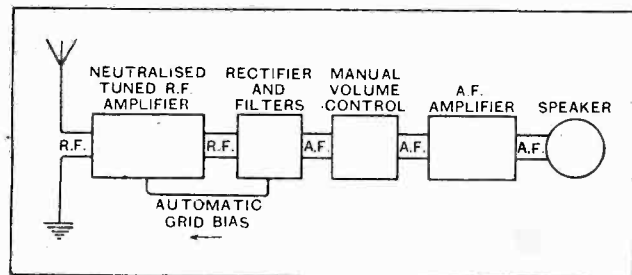
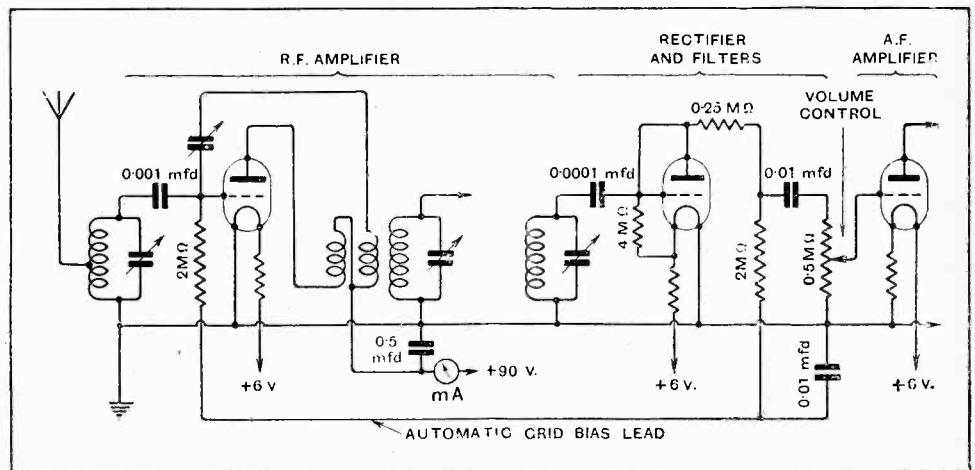

Fig. 1.—Schematic diagram showing natural sub-divisions of circuit.
Fig. 2.—Essential circuit connections and values in the automatic volume control device.
Fig. 1 is a schematic diagram showing the natural sub-divisions into which the circuit may be divided; for further detail Fig. 2 should be consulted. The four sections are constituted as follows:—
**R.F. Amplifier.**—This consists of four stages of radio-frequency amplification, the circuit connections of one stage being shown in Fig. 2. Valves having an A.C. resistance of 12,000 ohms and an amplification factor of 8 are employed in a conventional neutralised circuit. There are two tuning controls, one for the aerial circuit and the other for simultaneously tuning the secondaries of the four H.F. transformers.
slight lag between the change in amplitude of the signal and the application of the appropriate grid bias; but this is negligible on normal broadcast wavelengths, where fading periods are usually of the order of minutes. With the values given in Fig. 2 the time constant is 1/40th sec., and the time taken to reach equilibrium approximately 1/20th sec. This time can be further reduced, but at the cost of reducing the amplification of the lowest audio frequencies.